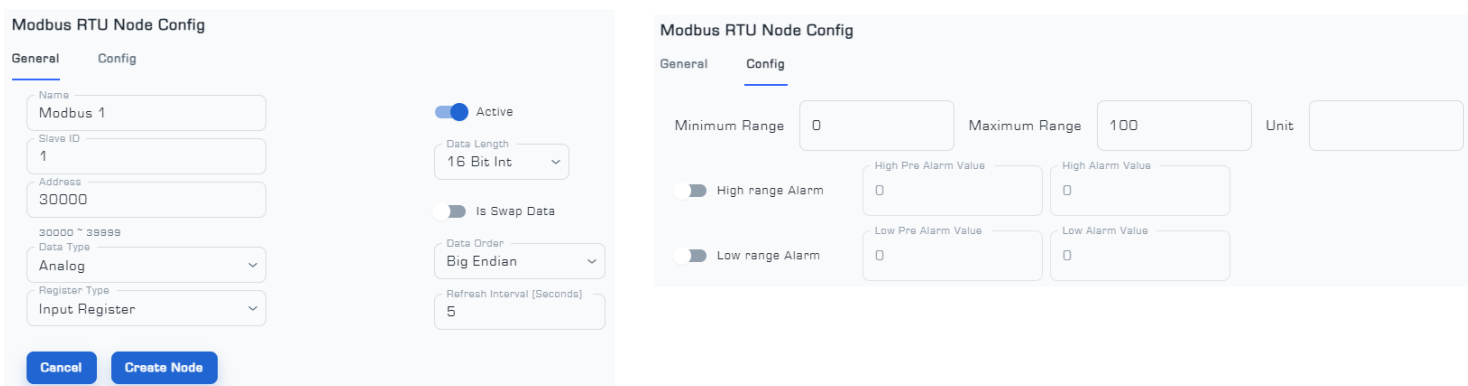

Figure 45: Settings related to adding a new Node in the virtual card
- (2) Add the general settings for Modbus RTU on the 'General' page and other configuration settings for the Node on the 'Config' page (Figure 45).
- (3) To save the settings, select the 'Create Node' option on the 'General' page (Figure 45).
- (4) You can apply the remaining settings on any Modbus management software to read the information of that Node.